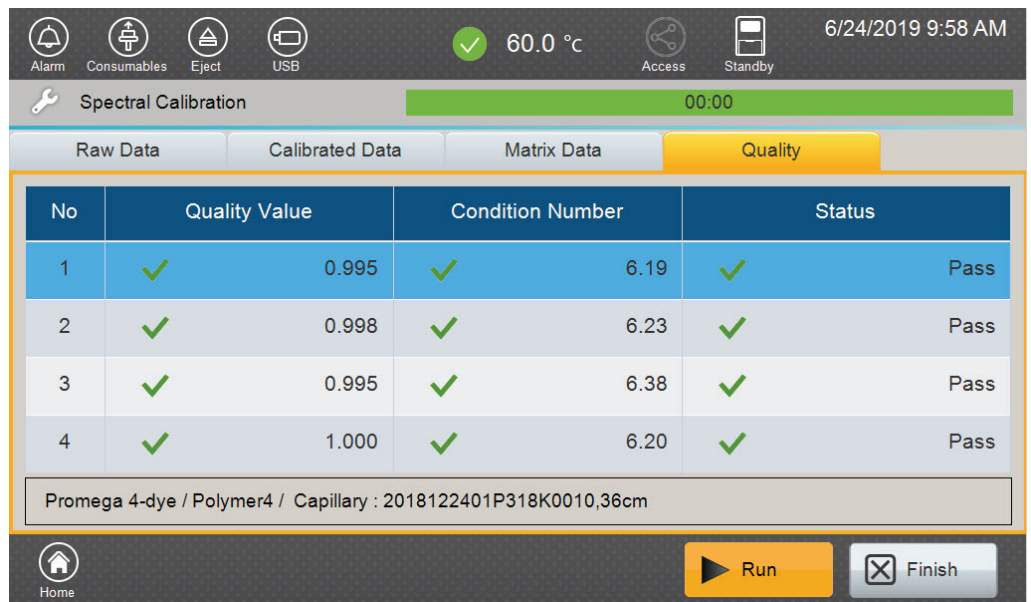

Figure 55. Spectral Calibration 'Quality' tab screen.
- Review the quality of the spectral calibration by selecting the 'Quality' tab (Figure 55).